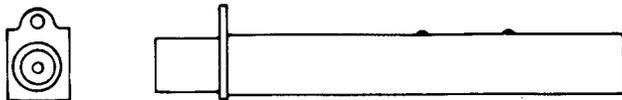

Fig. 21—571A Jack
**2.21 571A:** This coaxial-type jack (Fig. 21) consists of a modified 211A terminal assembled in the rear of a 472B jack and soldered. A 237A resistor (2297 ohms) is connected from the contact to the conductor. The 571A jack is designed for a solderless shield connection to a 724 or similar-type cable. This jack was tested at 2000 volts ac before the resistor